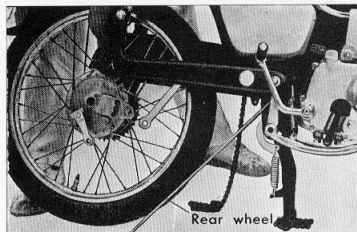

Figure 4-27. Removing rear wheel
- (2) Remove the drive chain case lower half and disconnect the chain.
- (3) Remove the brake adjusting nut and separate the brake rod from the rear brake arm.
- (4) Separate the rear brake torque link from the brake panel.
- (5) Remove the rear wheel axle by removing the axle nut and then the rear wheel may be removed. (Fig. 4-27)
- (6) The brake shoe and the rear wheel is disassembled in the same manner as the front wheel.